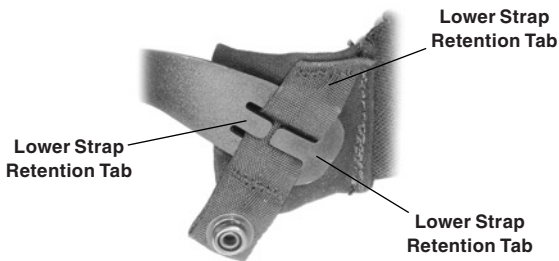

Figure 3-1. Re-installing the Neck Pad
1. Lift the upper headband strap retention tab (see Figure 3-1) allowing the neck pad strap to be inserted underneath.